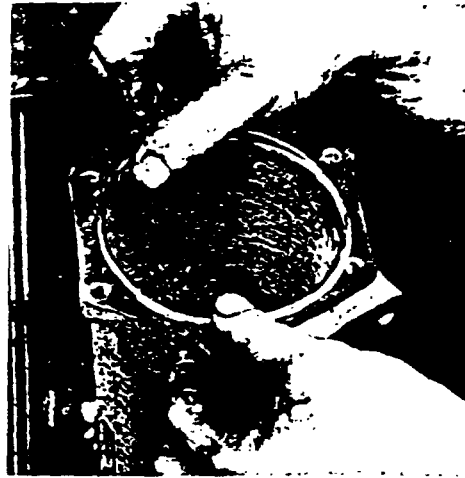

Figure 2-295. Installing O-Ring
2. Install O-ring in groove at water outlet end of the oil cooler. See Figure 2-295.